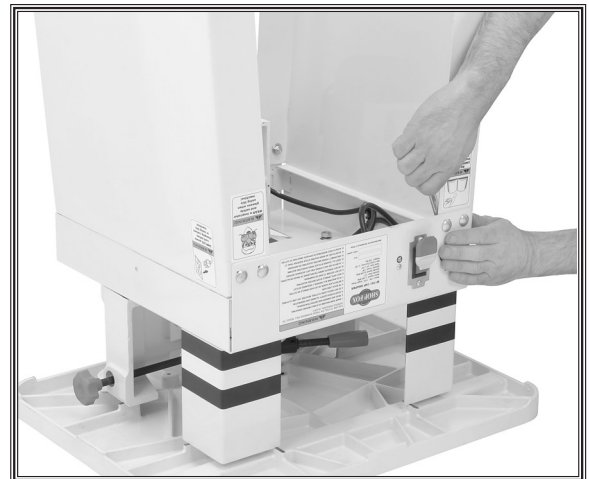

Figure 10. Attaching stand to shaper unit.
3. Place the shaper table upside down on two sturdy blocks that are at least $3\frac{1}{2}$ " off the ground as shown in **Figure 10**. Make sure the spindle DOES NOT touch the ground or the weight of the shaper may damage the spindle.
4. Place the stand assembly on the shaper and attach it with the 8mm carriage bolts, $\frac{3}{8}$ " washers, and 8mm hex nuts as shown in **Figure 10**.